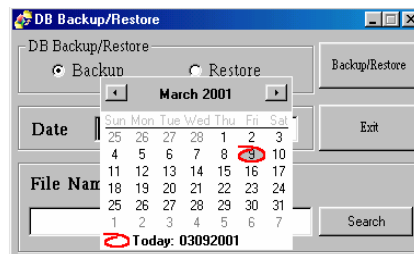

Figure 2.15
1. In order to backup database corresponding to a given date, click in the 'Date' field. A calendar (Fig 2.15) will be displayed. Select a desired date and click.